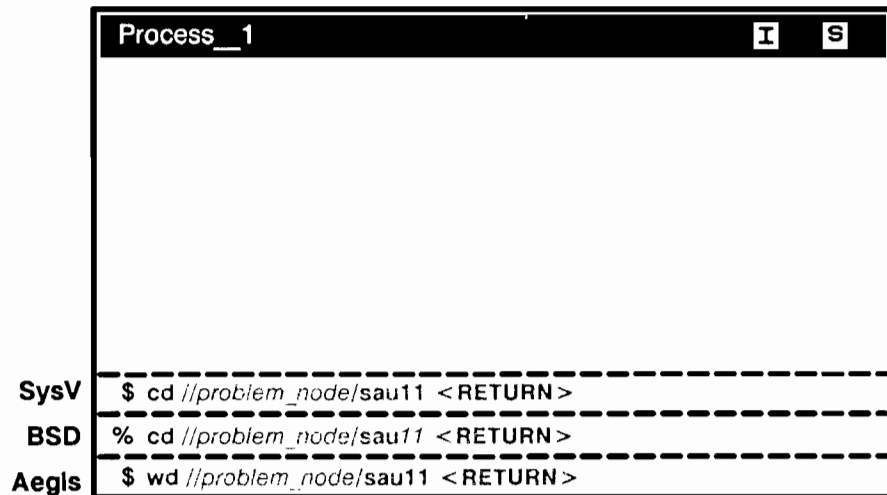

Figure 8-35. Setting the Working Directory on a Node with an Internal Disk
10. If your system (referred to as *//problem_node*) has a Winchester disk, set your working directory to */sau11* as shown in Figure 8-35.